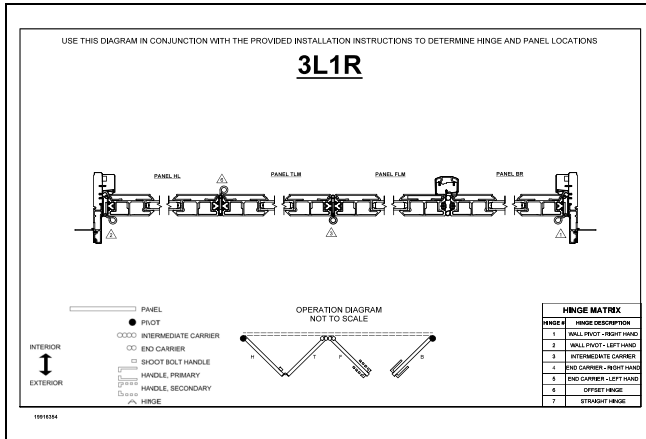

Figure 32
1. Panels are lettered according to configuration diagram. Install the panels one at a time, starting from any hardware numbered 1 or 2 and working across. Repeat from the other jamb if necessary. Refer to the configuration diagram enclosed similar to Figure 32